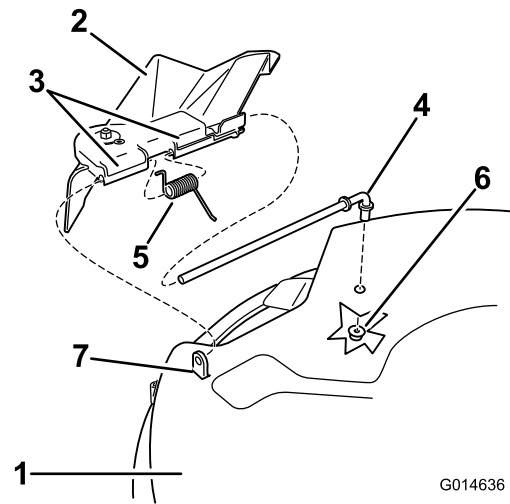
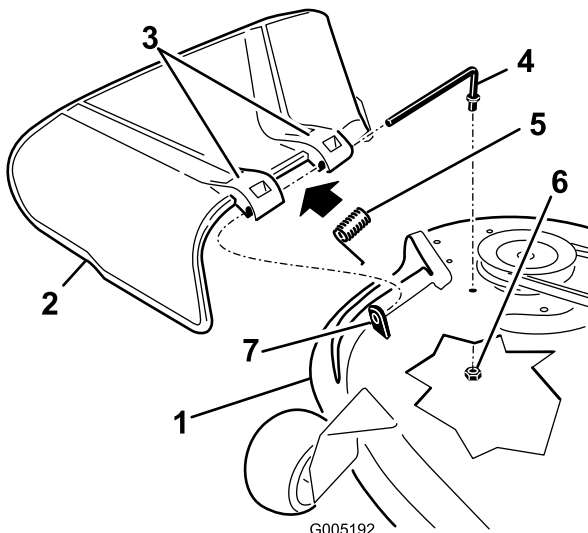

Figure 66
Figure 67
1. Locate items shown in Figure 66 and Figure 67.
2. Remove the nut (3/8 inch) from the rod under the mower (Figure 67).
3. Slide the rod out of the short stand-off, spring, and grass deflector (Figure 67).
5. Replace the grass deflector (Figure 67).
7. Place the spring on the rod, with end wires down, and between the grass deflector brackets. Slide rod through second grass deflector bracket (Figure 67).
9. Secure rear end of rod into the mower with a nut (3/8 inch) as shown in Figure 67.